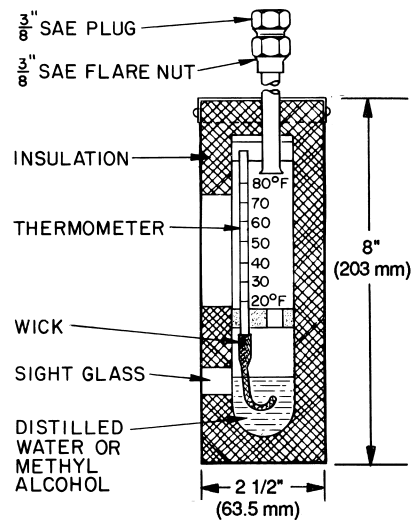

Fig. 27 — Typical Wet-Bulb Type Vacuum Indicator
- absolute pressure manometer or wet-bulb vacuum indicator (Fig. 27)